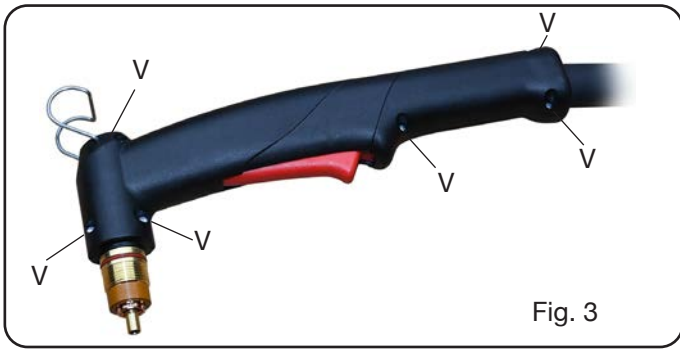
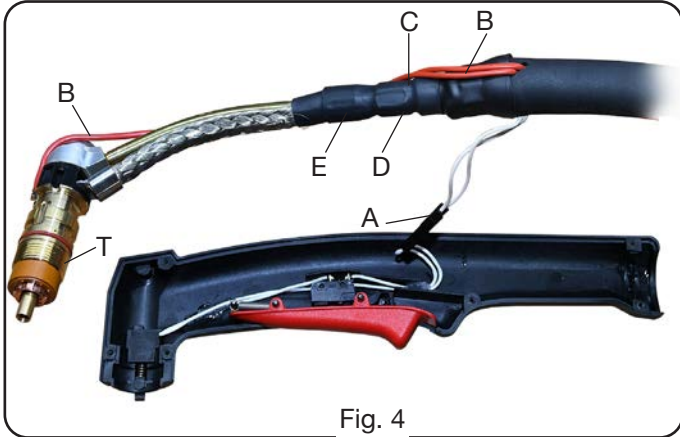

Fig. 3
Fig. 4
- Unscrew the 6 screws **V** Fig.3 and remove the **LH** grip.
- With reference to Fig.4, lift the welding torch body **T** with cable and disconnect connector **A** (push-button) and
- Connect connector **B**, introduce the welding torch body into the grip seat and then connect connector **A** by introducing it inside the grip as shown in figure 4.
- With reference to Fig.4, lift the welding torch body with cable and disconnect connector **A** (push-button) .
- Replace the grip with push-button, connect connector **A** and introduce it inside the grip, as shown in figure 4, and then position the welding torch body with cable inside the **RH** grip seat.
- Unscrew the 6 screws **V** Fig.3 and remove the **LH** grip. With reference to Fig.4, lift the welding torch body with cable and disconnect connector **A** (push-button) and connector **B** (pilot arc).